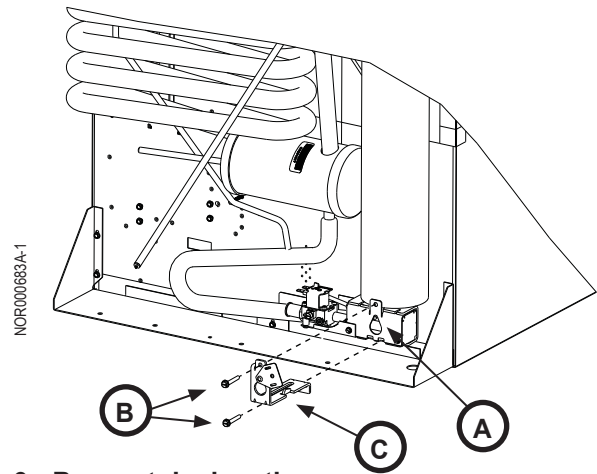

Fig. 9 - Burner tube location
2. Touch and hold the ON/OFF button () for one (1) second to turn the refrigerator off.
4. Disconnect the two (2) white wires from the gas train assembly (Fig. 9, A).
6. Remove the two (2) screws (Fig. 9, B) that attach the gas train support bracket/door assembly (Fig. 9, C) to the cooling unit.